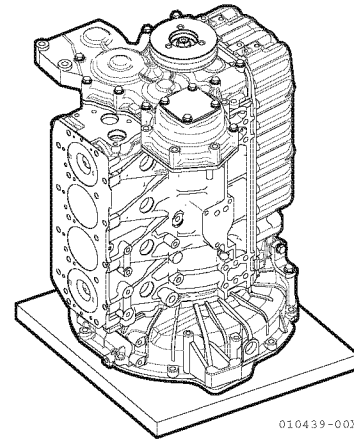

Figure 5-44
- (a) Place a wood block of appropriate size on the floor, and stand the engine on the flywheel housing (Figure 5-44).